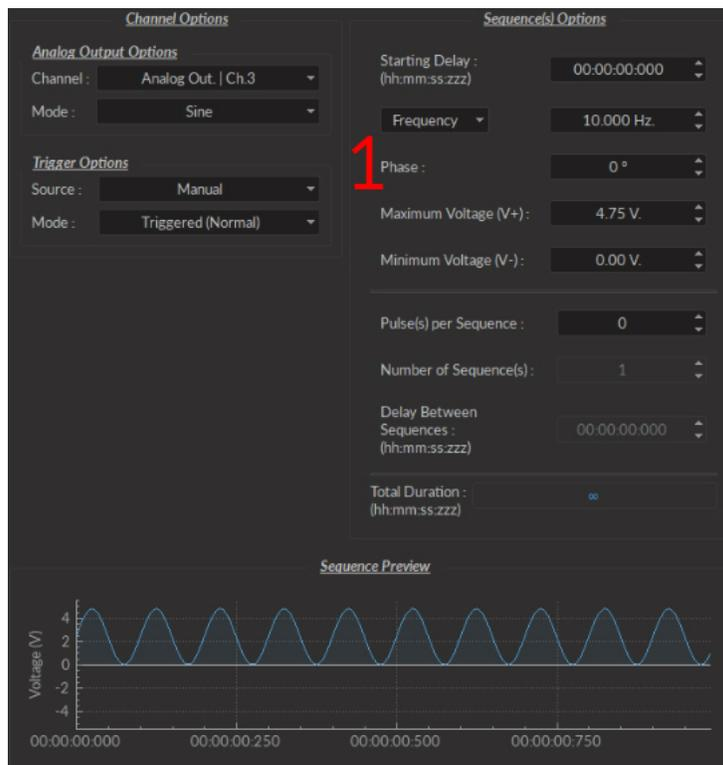

Figure 3.7: Channel(s) configuration window, Analog Output Sine
- The **Sine** mode (Fig. 3.7) creates a sinusoidal pulse sequence with peaks at **V+** and **V-**. This includes all sequence options as the **CW** and **Square** mode, save the following.
- The **Time ON** option is changed for the **Phase** option (Fig. 3.7). This allows the choice of the sine wave phase, in degrees.